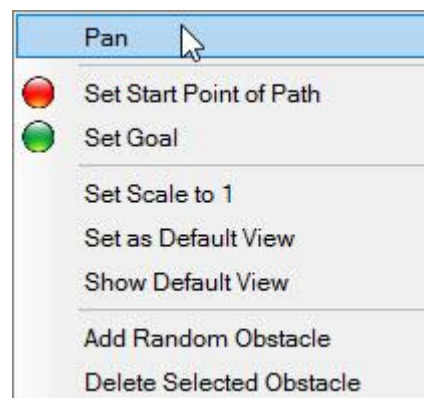

Figure 5.3: Panning via the context shortcut menu
- Context shortcut menu (Figure 5.3)